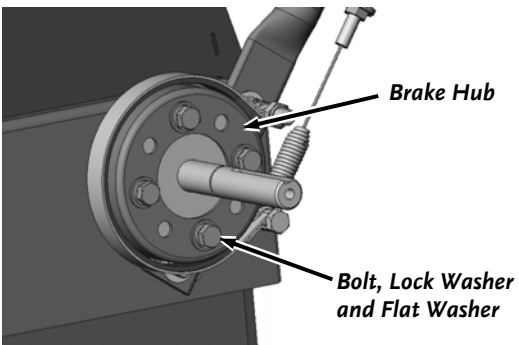

Figure 25
2. Remove the four Bolts, Lock Washers and Flat Washers from the Brake Drum with a 1/2" Wrench and pull the Drum from the Axle (**Figure 25**).